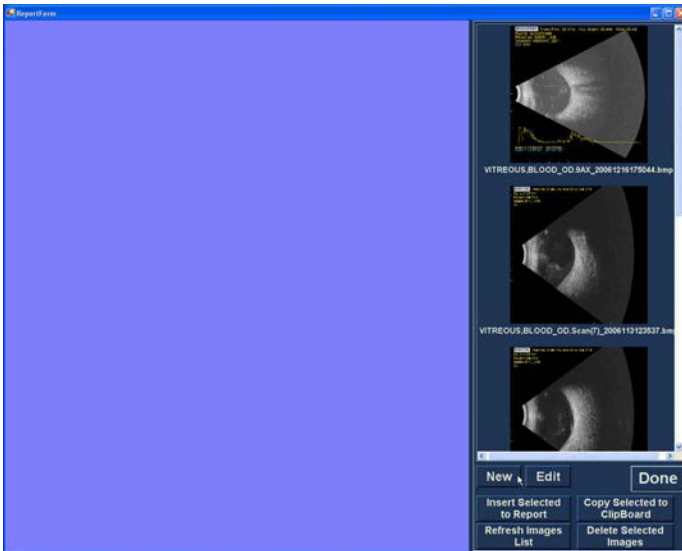
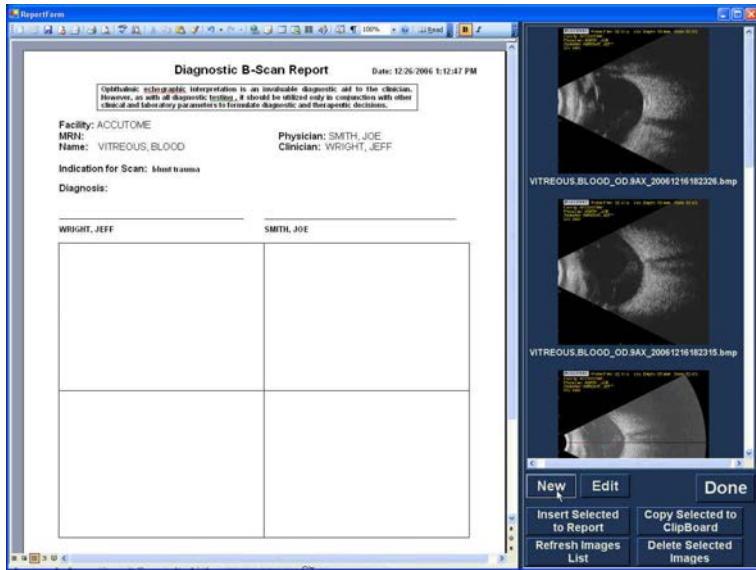

Figure 7.7 - Creating a New Report
Figure 7.8 - Report Form
After you execute "Manage Reports" the Accutome B-Scan Plus launches the Report Form window with the snapshot list at the right as shown in Figure 7.7. The Report Form window also contains function buttons with which you can save additional snapshots to files, delete a selected snapshot, or refresh the image list after making image edits or selections. You will create the actual report in this window.
1. Click on the "New" button as shown in Figure 7.7. The form for reports will display as shown in Figure 7.8 on page 79.
After you execute "New" in the Manage Reports window the Reports Form will display as shown in Figure 7.8. The Report Form for the selected patient will display all information in all the fields that have been predefined in either the setup or the patient exam (either when creating a new exam file or when editing a patient exam). The Report template displays the following fields: